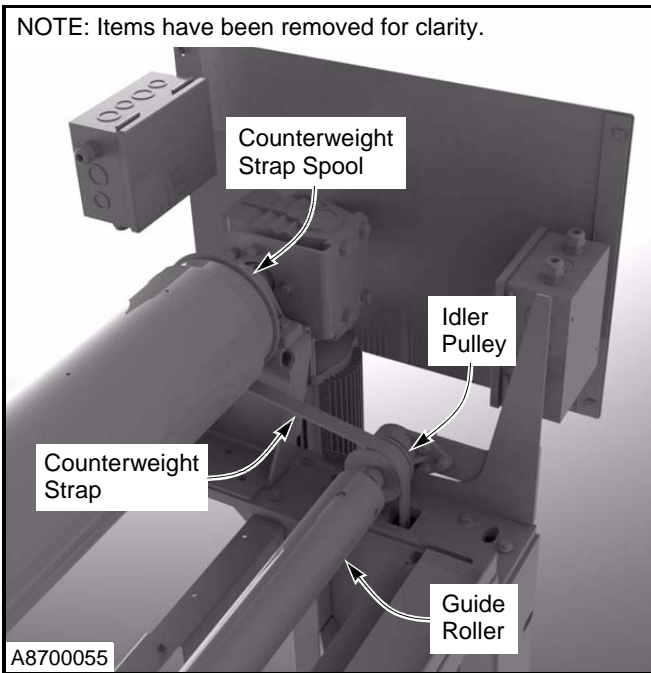

Figure 48
11. Wrap the strap around the spool three times. The strap must hang off the front of the spool. (See Figure 48)